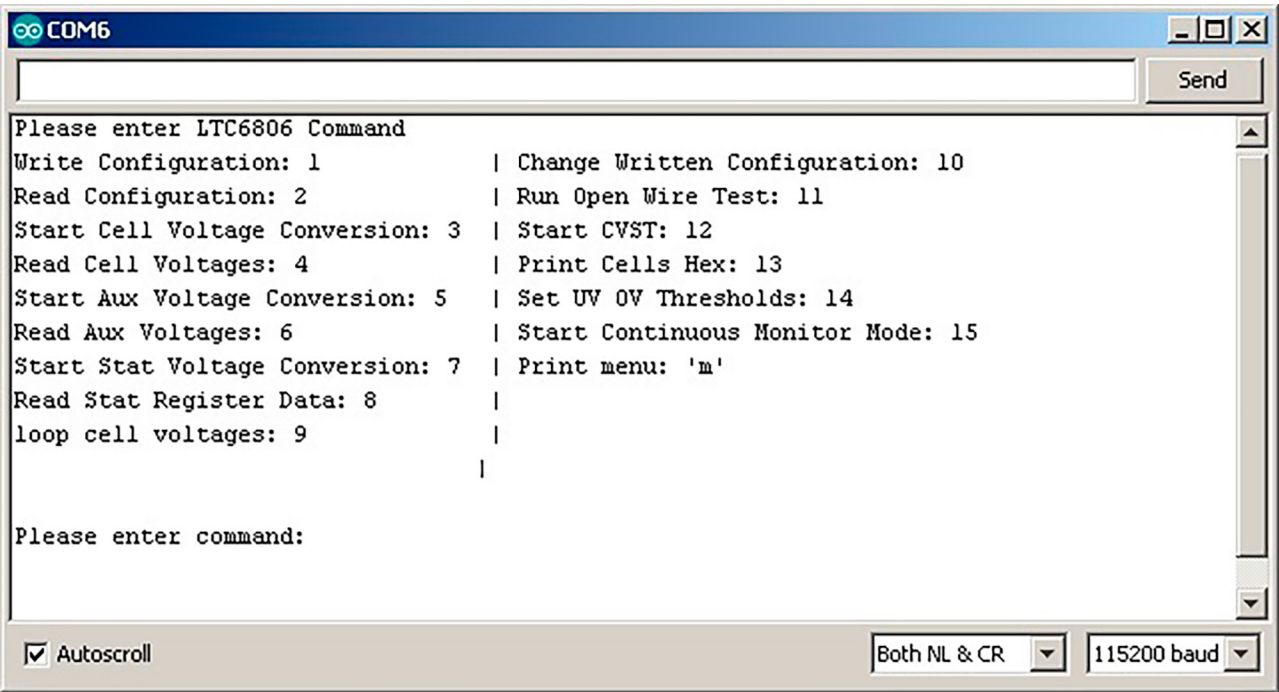

Figure 13. DC2192 Sketch Menu
- d. As shown in Figure 13, when configured correctly the DC2192 sketch menu will appear.